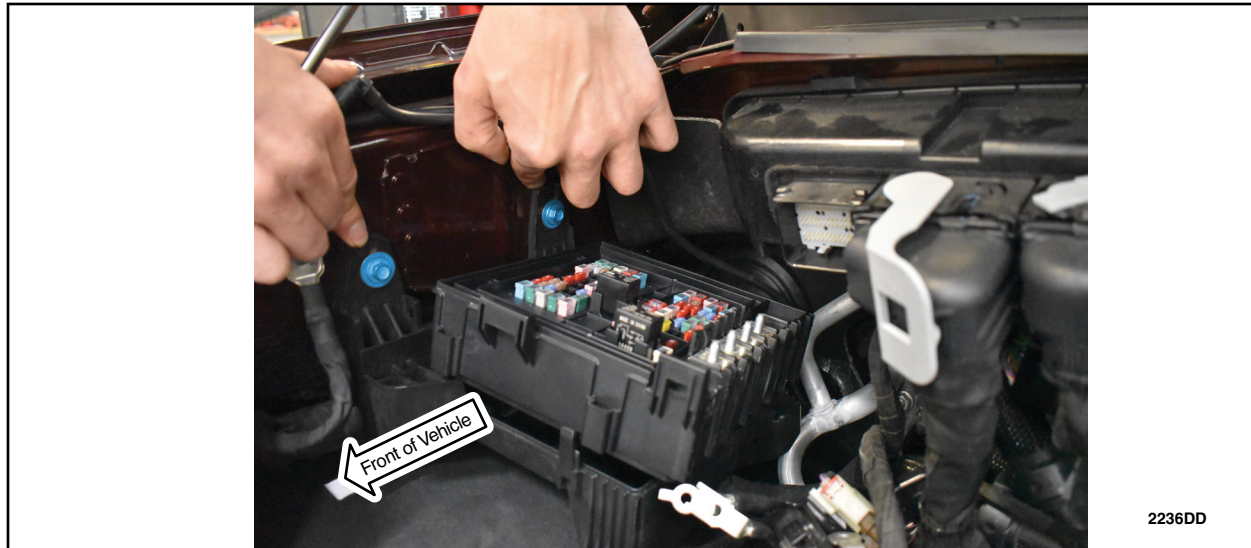

FIGURE 9
9. Remove the fasteners for the bottom cover of the BJB. See Figure 9.